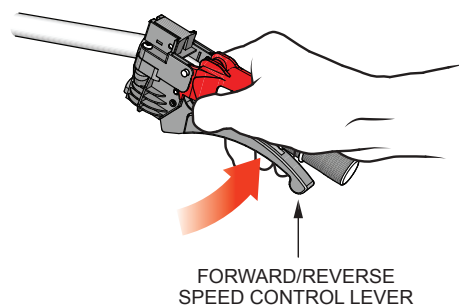

Figure 8. Forward/Reverse Speed Control Lever (Electric)
4. Slightly squeeze the **forward/reverse** speed control lever (Figure 8) until the Mini Dumper begins to move in a **forward** direction.
7. Slightly squeeze the **forward/reverse** speed control lever (Figure 8) until the Mini Dumper begins to move in a **reverse** direction.